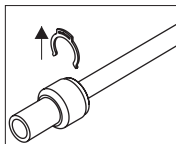

Fig. 1
- 1) Remove the safety clip from the quick connection fitting (if there is one) (fig. 1).